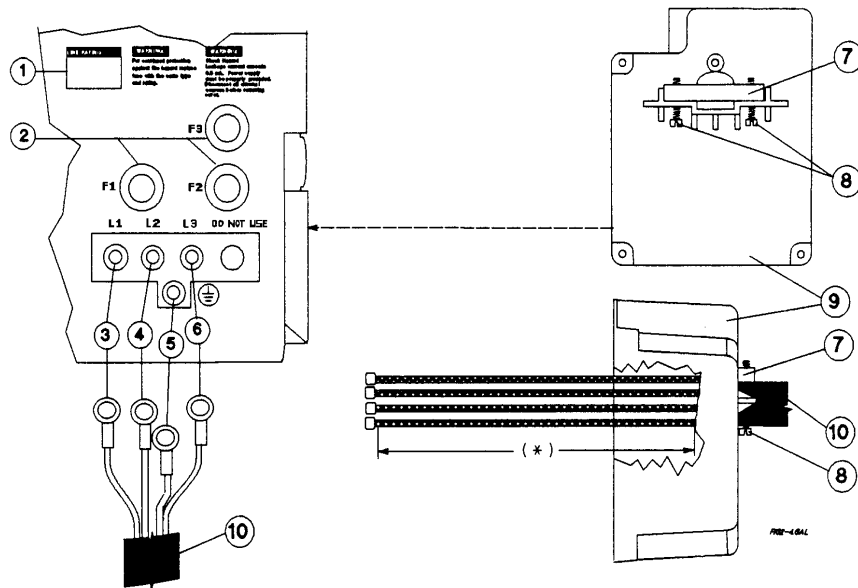

Figure 2-5. Connecting the Series 668xA Power Cord
See Figure 2-5 and proceed as follows:
1. Check the line fuses (2), Figure 2-5) as follows:
- a. Examine the **LINE RATING** label (1) on the rear panel.
- b. Unscrew the line fuse caps (2) from the rear panel and verify that all fuses are as specified on the label. Replace the fuses.
2. Open the line clamp (7) and insert the line cord (10) through the opening.
3. Position the line cord so that the clamp is near the end of the outside insulating sheath. Tighten the screws (8) securing the clamp.
* Phase 1 (3) to L1. Phase 2 (4) to L2. Phase 3 (6) to L3.
5. Secure the ground wire (5) to the chassis earth ground stud.